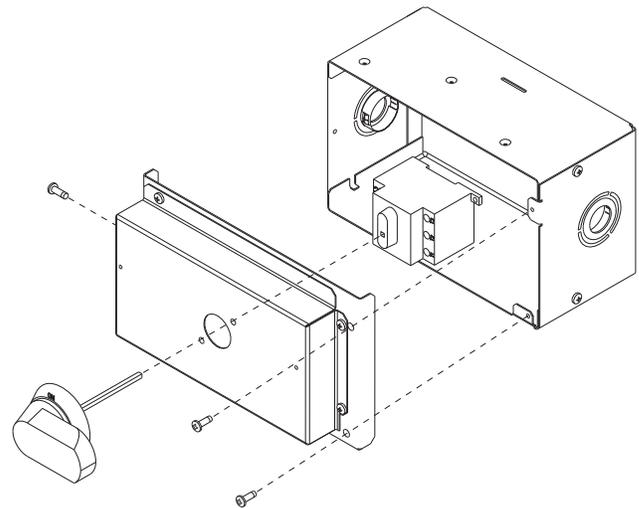

Fig. 21 — NFD Handle and Shaft Assembly
5. Insert the shaft with the cross pin on the top of the shaft in the horizontal position. See Fig. 21.
10. Secure the handle to the painted cover with (2) screws and lock washers supplied.
11. Engaging the shaft into the handle socket, re-install (3) hex screws on the NFD enclosure.